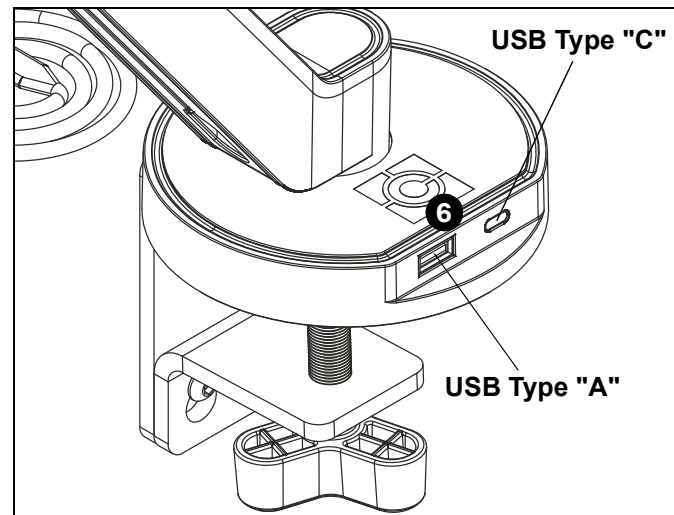

Figure 3
5. Plug cable into power source. Use wall charger (B) as desired.
- One USB type "A", one USB type "C": 5Vdc, 3.1A/ 15W (shared) (See Figure 3)